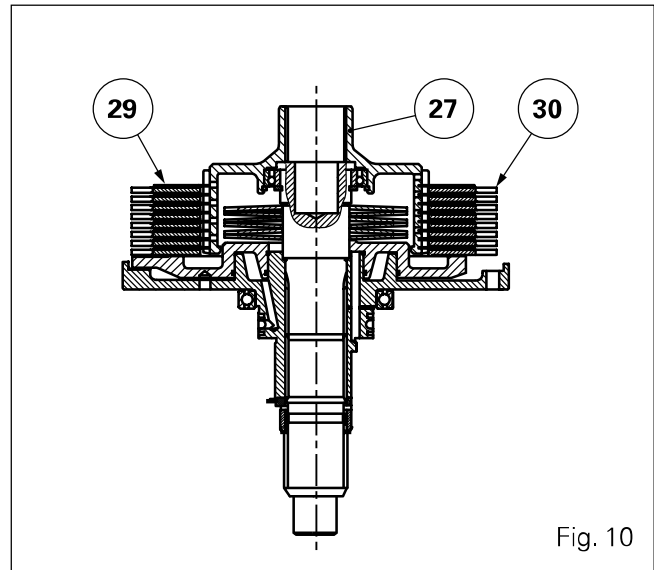

Fig. 10
51. Position the intermediate plates (30), aligning the tabs and the discs (29) on hub (27) according to the type of tractor (see remark and Fig. 10).